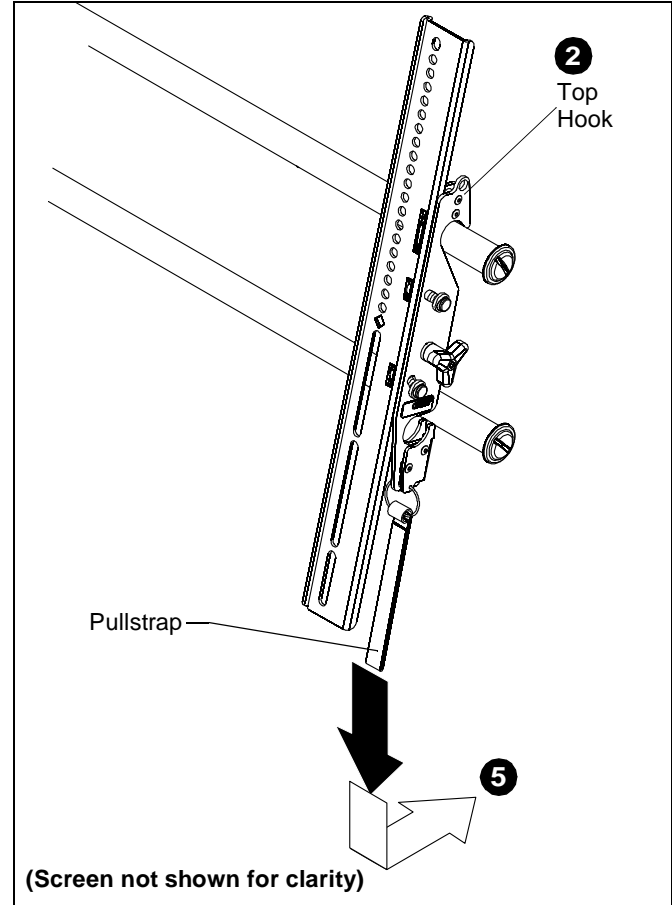

Figure 8
2. Hang top hook of uprights onto the top bar of the mount. (See Figure 8)
5. Pull downward on the pullstraps and swing inward toward wall, latching uprights to lower bar and locking bottom of screen to the mount. (See Figure 8)